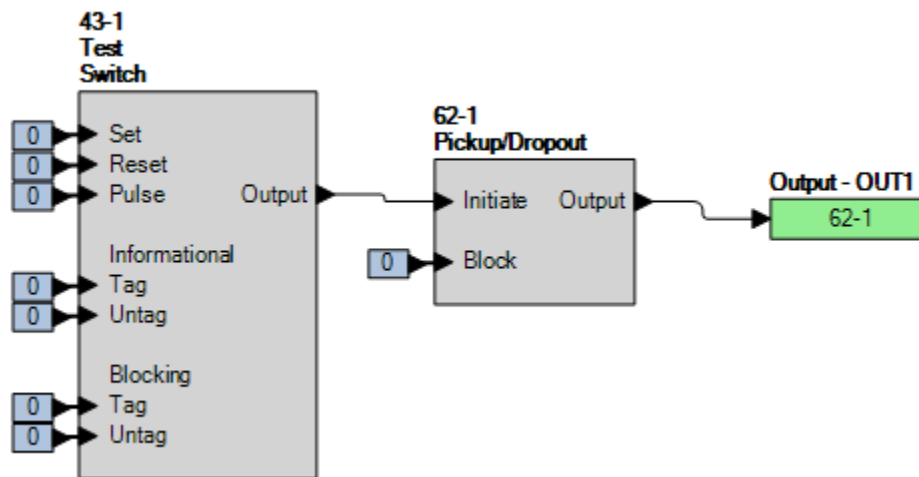

Figure 85-1. BESTlogicPlus Settings
Step 2: Use BESTCOMSPPlus to configure the BESTlogicPlus programmable logic shown in Figure 85-1.
Step 1: Use BESTCOMSPi.us to send the operational settings in Table 85-2 to the BE1-11g. Retain the logic settings from Figure 85-1.
Step 1: Use BESTCOMSPiplus to send the operational settings in Table 85-3 to the BE1-11g. Retain the logic settings from Figure 85-1.
Step 1: Use *BESTCOMPlus* to send the operational settings in Table 85-4 to the BE1-11g. Retain the logic settings from Figure 85-1.
Step 1: Use *BESTCOMSPi* to send the operational settings in Table 85-5 to the BE1-11g. Retain the logic settings from Figure 85-1.